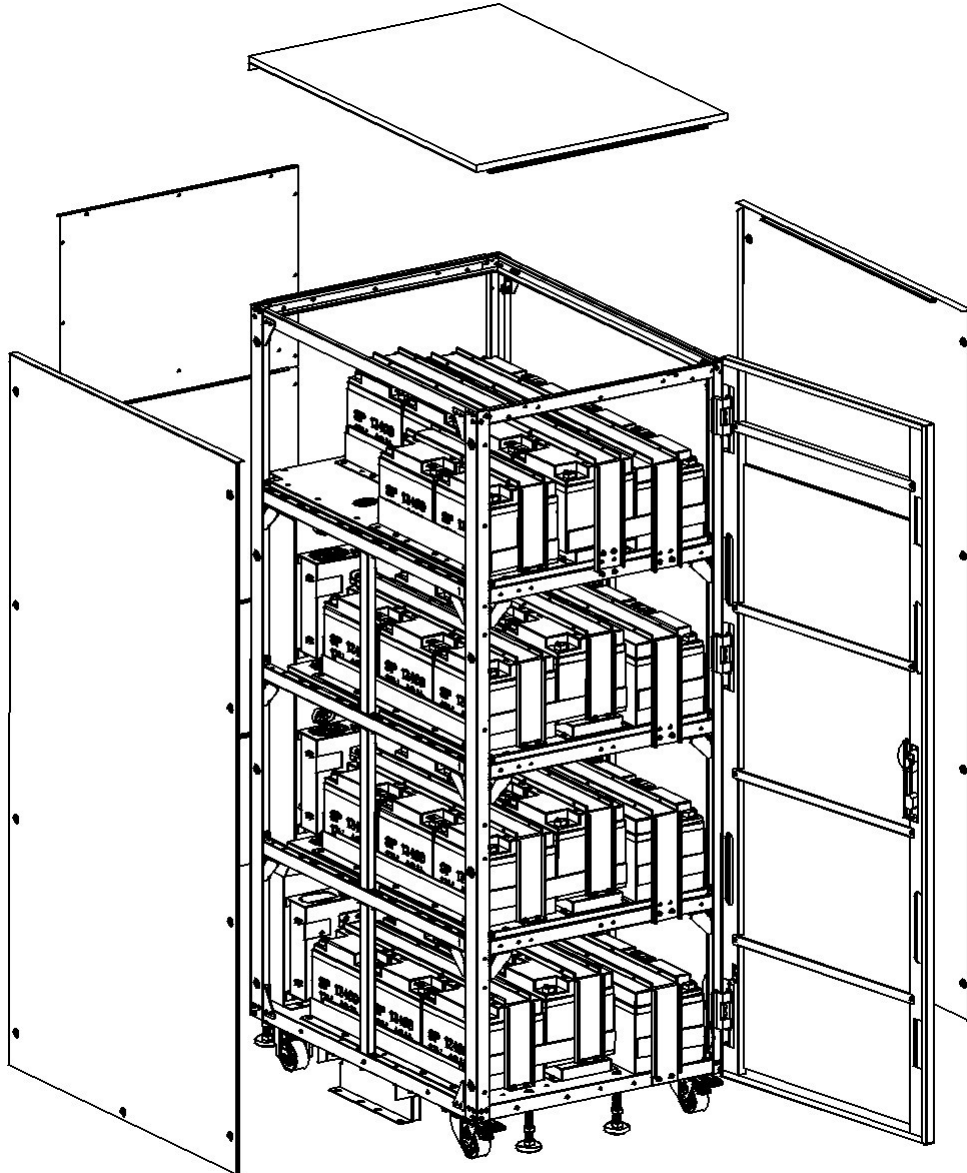

Figure 5-53
14. Reinstall the covers and the screws (Figure 5-53).